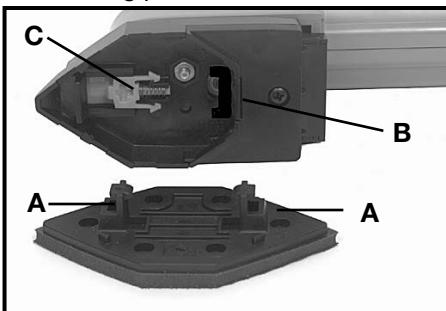
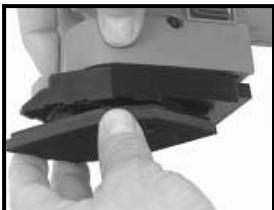

Fig. 7
Fig. 8
All of the accessory pads and profile mounting plates are attached to the tool in the same way. Each pad or mounting plate has two posts (A) Fig. 7 used to attach it to the Profile Sander.
One pad post fits into a pocket (B) Fig. 7 in the tool, and the other post is locked into place by a tab (C) Fig. 7. The mounting post area (of all the pads and mounting plates) is symmetrical. The pad (or mounting plate) can be attached to the Profile Sander with either end forward, which allows the use of both pointed ends of each sheet of pad abrasive, and permits the profile holders to be mounted in the best position for each particular application.
1. Position one of the pad (or mounting plate) posts (A) Fig. 7 into the pocket (B) Fig. 7 of the Profile Sander (Fig. 8).